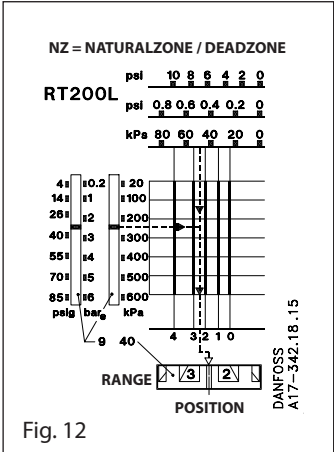

Fig. 12
The neutral zone, $35 - 32 = 3$ m wg, corresponding to 0.3 bar, must be set on the neutral zone disc (40) fig. 8 page 9. According to the diagram fig. 12 the disc setting is 1 or just over. A more accurate setting can be obtained by using the test setup shown in fig. 14.